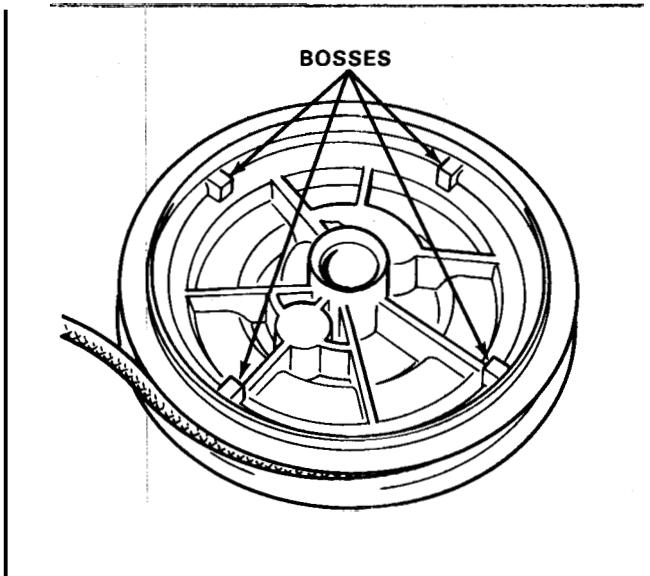

Figure 47
5. Install the reel. The bosses on the inside diameter of the reel engage the slots on the outside diameter of the spring case. See Figure 47.